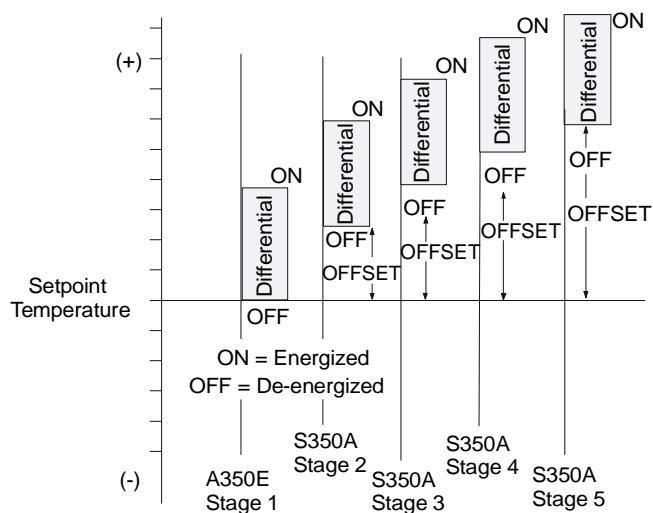

Figure 7: Typical Multistage Cooling Application
Refer to Figure 7 for a sample multistage application. If a Celsius temperature reading is desired, place the included Celsius DIFF label over the Fahrenheit DIFF label (Punch out the tab in the center before affixing label to the board.)
1. Make sure installation and wiring connections are according to job specifications before applying power. (Refer to Figure 7 for a sample multistage application if needed.)